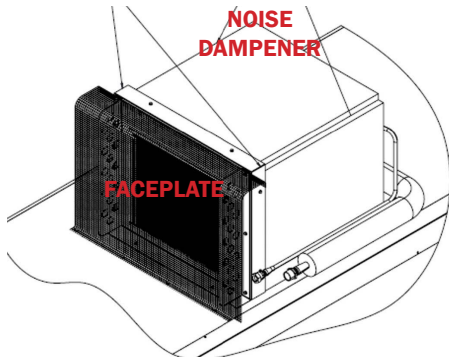

Fig. 13 Low charge housing balloon guard
- For low charge cases, the condensing unit balloon guard may need to be removed for doorway entry (Fig. 13). Remove screws connecting balloon guard to top of case and lift housing to remove. **Be sure to retain all screws and sheet metal removed.**